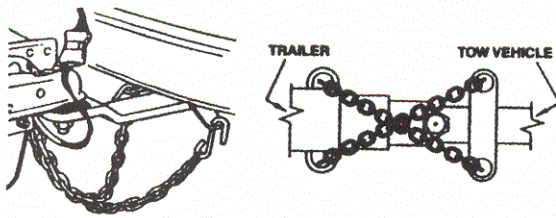

Figure P13: Crossing the Safety Chains
9. Safety chains are provided and must be used. Cross the safety chains under the coupling and attach to the towing vehicle's frame or bumper. See Figure P13. Always allow slack for turns. Four Winns provides securement clips for the safety chain hooks and recommends you use them. Regulations vary from state to state. Please check the local laws in your state.